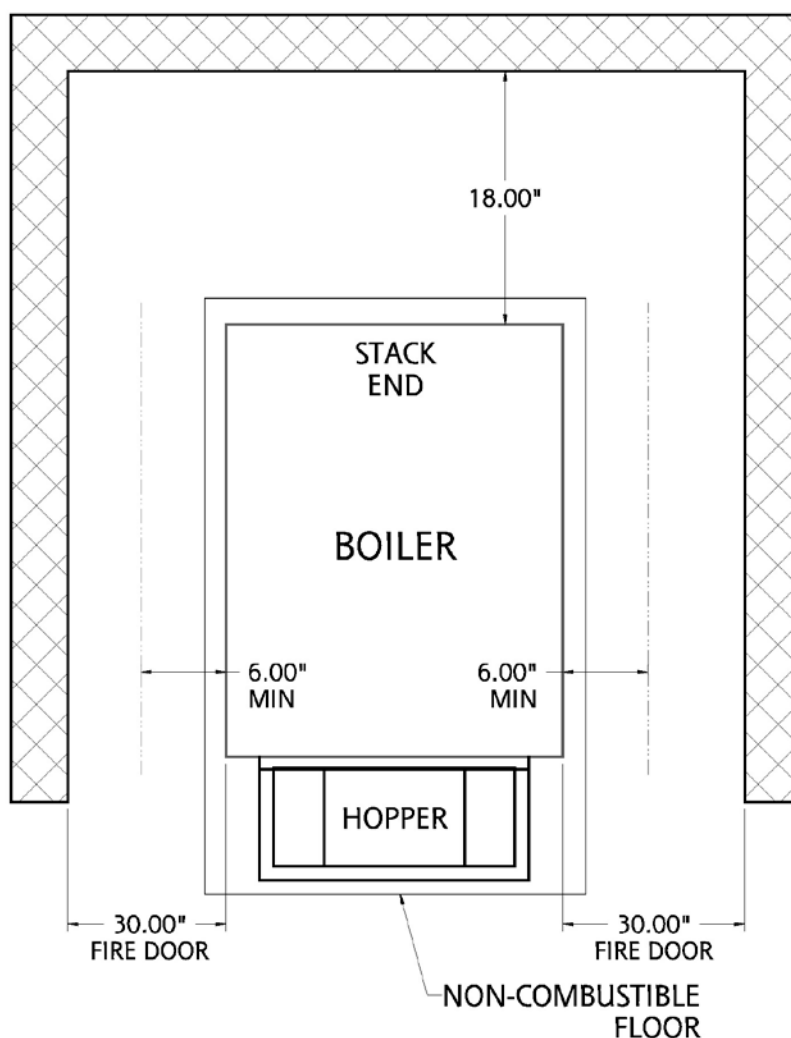

FIGURE 1
1. Boilers must be installed on a noncombustible floor. Keystoker boilers are available with fire door on the right or left side. When you stand at the stoker end of the boiler and look directly over top of boiler toward stack end, you may choose to have a fire door on the right or left side of boiler. Selecting a position to make this door accessible is important. When door side must be placed toward a wall, 30" clearance is recommended for easy fire and ash door access. Clearance from wall at stack end should be 18" to permit removal of water heating coil if necessary. Clearance on blank and hopper sides should be 6". Clearance from the top of the boiler to a combustible is 12". Refer to Figure 1.